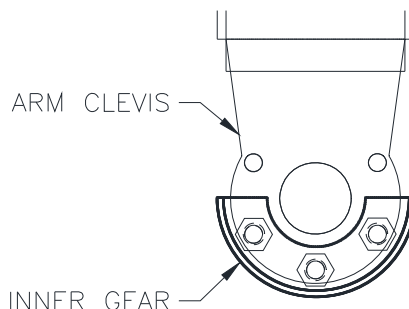

Fig 20 – Symmetric Inner Gear
- 37) For Asymmetric installation, skip to step 39. Ensure the Inner Gear is positioned on the arms as shown in Fig 20. Lubricate the Arm Pin or carriage arm pin hole with “anti-seize” and install the arms. Place snap ring in groove on bottom of arm pin. Ensure that the arm restraint gears engage and disengage properly. Arm restraint gears should disengage completely when lift is fully lowered. When gears are engaged, Outer Gear should lower enough for top of teeth to be level with top of Inner Gear teeth. If any binding occurs, adjust Inner Gear as necessary.